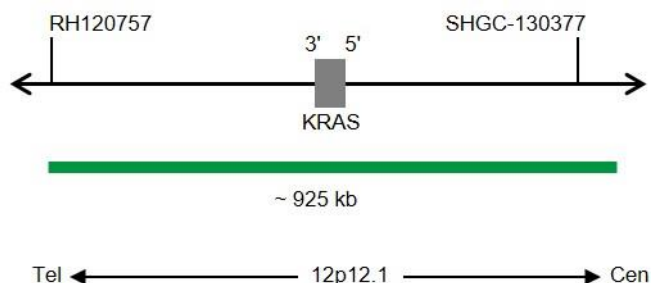

Fig. 1: SPEC KRAS Probe map (not to scale)
- ZyGreen (excitation 503 nm/emission 528 nm) labeled polynucleotides (~10 ng/μl), which target sequences mapping in 12p12.1* (chr12:24,916,728-25,839,353) harboring the KRAS gene region (see Fig. 1).